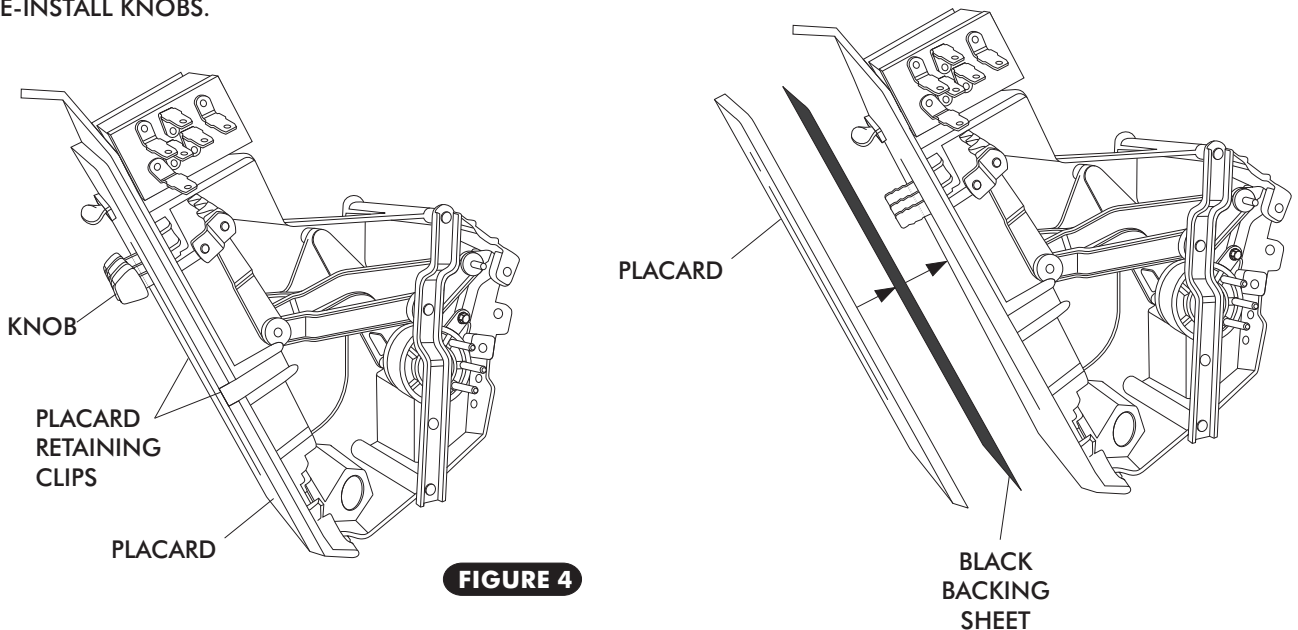

FIGURE 4
- REMOVE PLACARD RETAINING CLIPS. SEE FIGURE 4 BELOW.
- INSTALL NEW BLACK BACKING SHEET ON CONTROL PANEL. SEE FIGURE 4 BELOW.
- INSTALL NEW PLACARD AND SECURE USING OEM RETAINING CLIPS. SEE FIGURE 4 BELOW.